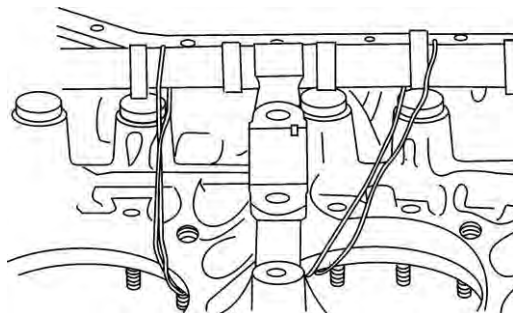

Figure 76
- (1) Tie a loop of soft wire around the camshaft and left crankcase half (as shown in Figure 76) to hold the camshaft securely in place.